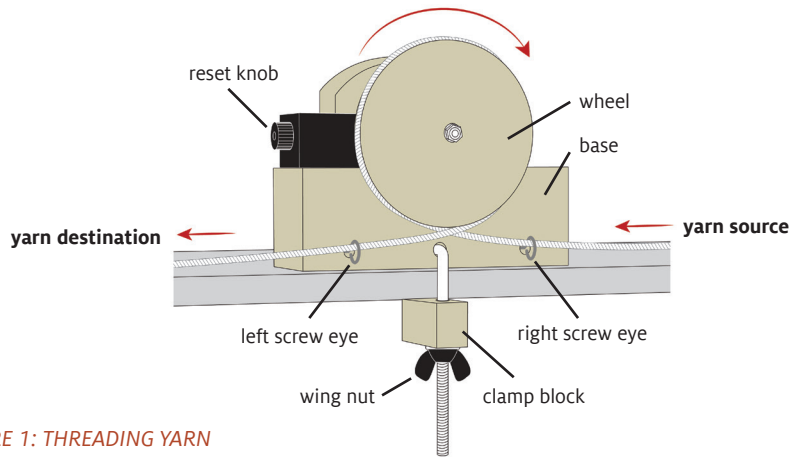

FIGURE 1: THREADING YARN
2. Thread your yarn: take it through the right screw eye, over the wheel clockwise, and through the left screw eye (Figure 1).